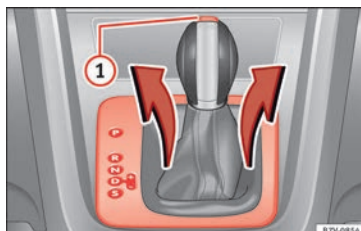

Fig. 49 Remove the lining from the area of the gear indication
- Pull the cover up around the dust guard on the gear selector lever » » **Fig. 49**.
- Press the lock button»» Fig. 49 ① on the gear selector lever knob and place the gear selector lever in the N position.